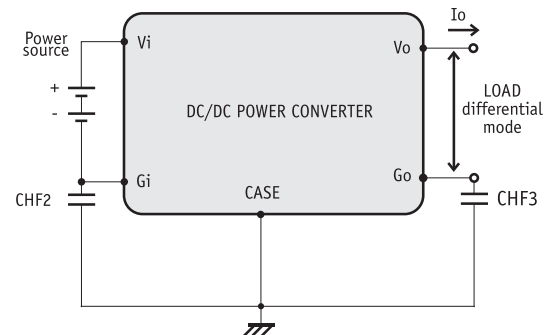

Fig 6 : Capabilities of HF capacitance connections for measuring output differential noise
- The second way is to connect high frequency capacitances to short out the parasitic capacitances (fig 6: CHF2 and CHF3) from G_i to case and from G_o to case.